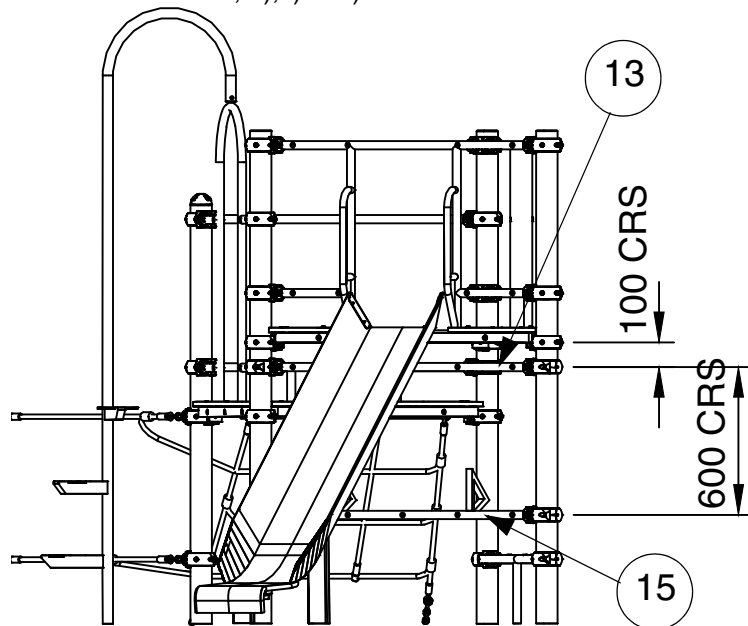

FIG.54
- 60) Attach in 2 places 1 off Panel Fixing Rail (item 13) and 1 off Fixing Rail - Dashboard (item 15) to the Clamp Rings. Each end of the fixing rails is held between a Bar Socket Top (item 49) and a Bar Socket Bottom (item 48) using 2 off BHCS Fixings (item 81) and should be fixed with the plastic panel fixing inserts on the outside of the structure. Note Step Access has been removed for clarity. See FIG.54 & FIG.C.